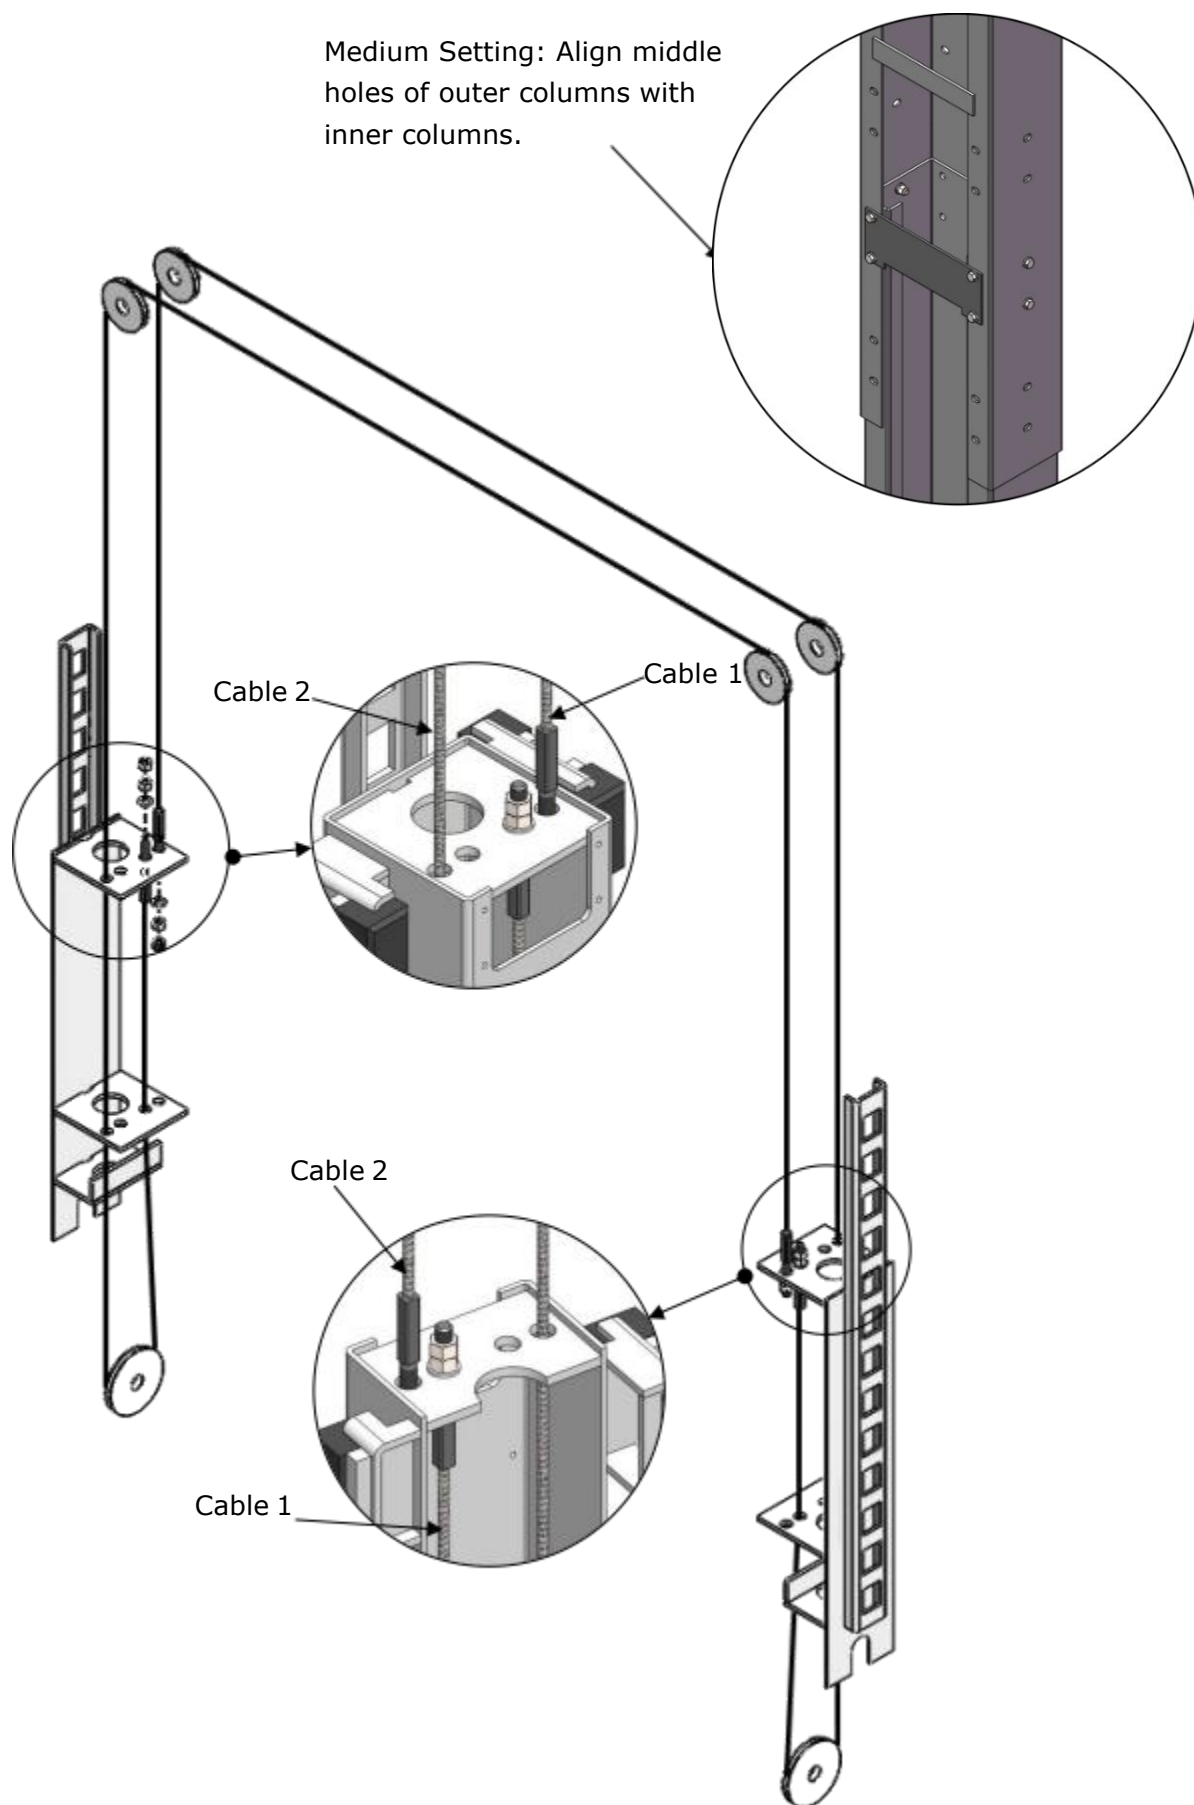

Fig. 30
2. Sync cable connection of medium setting installation. (See Fig. 30)